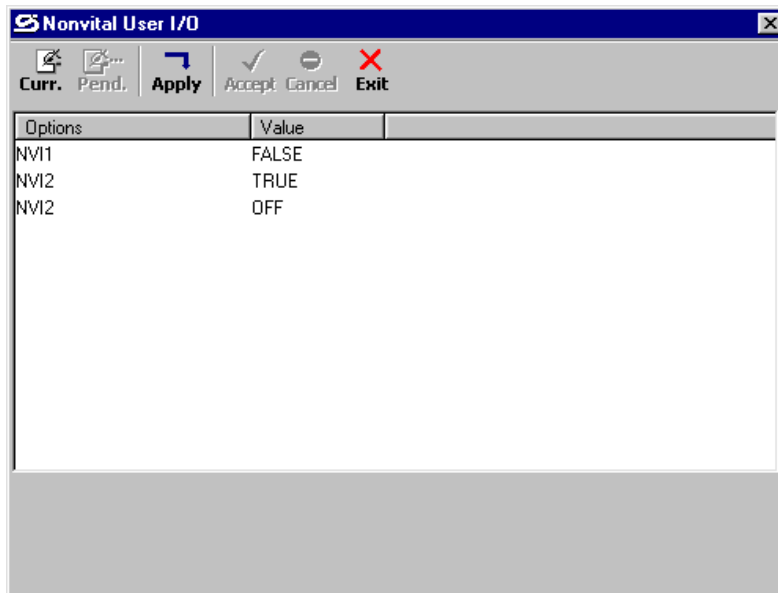

Figure 3-60
3. After all value changes are completed using the process just described, select the **Apply** button at the top of the display (refer to figure 3-60). The GDT processes the changes and uploads them to the GEO™ CIC where they become effective immediately. There are no pending values for Non-Vital User Timers.